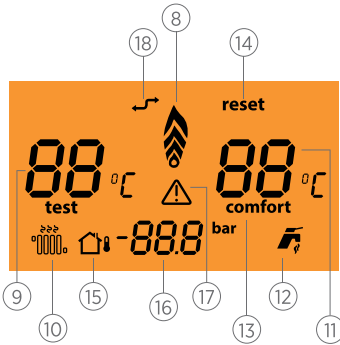

Figure 2 Control Panel with Touch Screen of Minerwa 25 Combi Boiler
When combi boiler is started, flame modulation symbol is seen at the middle section of the screen. At that position, you can increase and decrease the temperature with CH temperature adjustment buttons (see. Figure 2) (3) between 35 - 80 °C, screen lights when buttons are pressed and °C symbol flashes besides the CH temperature value.